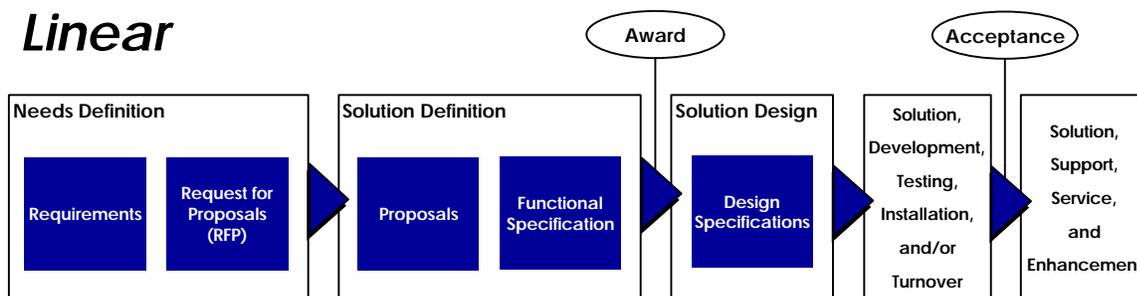

Figure 1: Two Contrasting Ways of Illustrating a Design Process
- Design requires a *broad to narrow focus*, from concept to specifications to designs to prototypes, etc. Some models show the process as spiral. However, most design models show a series of steps progressing from macro to micro with the tacit understanding that the process is not quite that neat and linear in real life. (See Figure 1 for two contrasting ways of illustrating a design process.)